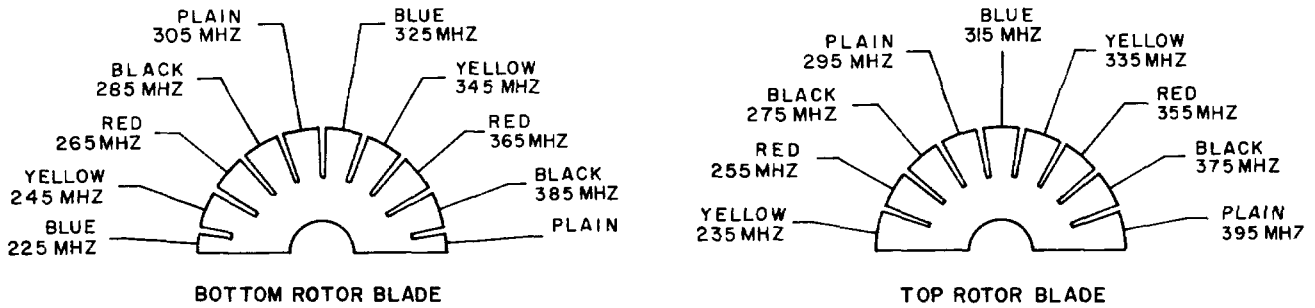

Figure 5-25. RF and Power Amplifier Module, Tuning Capacitor Rotor Tab Z1, Z2, and Z3, Adjustment Diagram
(3) PROCEDURE.
- (e) Bend rotor blade segment which has just come into mesh with stator on tuned circuits Z1, Z2, and Z3 for a maximum negative indication on TS-505/U (figure 5-25).